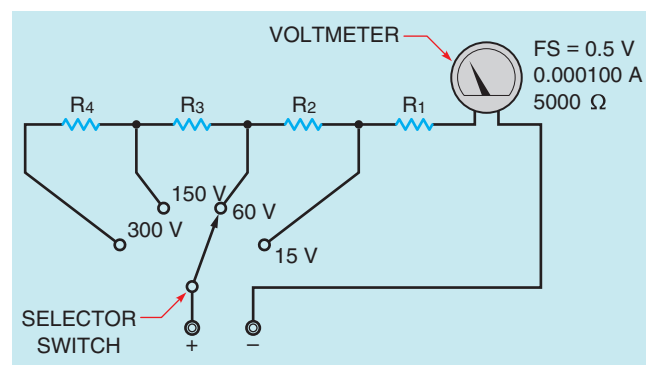

FIGURE 8-40 The multirange voltmeter operates by connecting different values of resistance in series with the meter movement.
2. The meter movement described in question 1 is to be used to construct a multirange voltmeter. The meter is to have voltage ranges of 15 V, 60 V, 150 V, and 300 V (Fig. 8-40). Find the values of resistors R_1 , R_2 , R_3 , and R_4 .